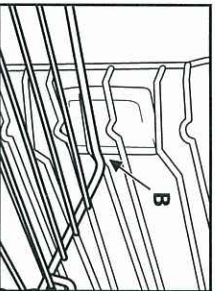

Fig. 2
2. Angle the wire shelf when it reaches the locking position "B" (fig. 2).